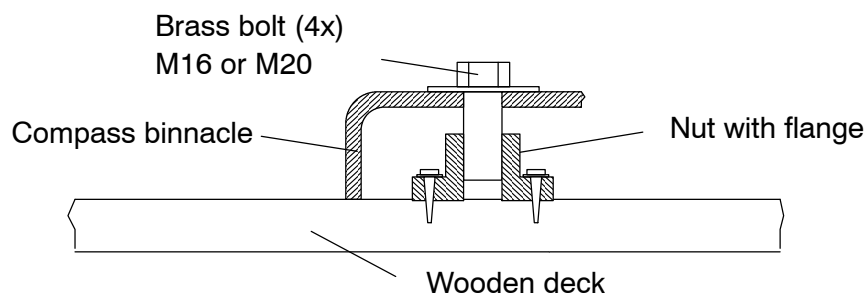

Fig. 6-4: Mounting the Compass Binnacle
- 14) Screw on the compass binnacle, see Fig. 6-4.